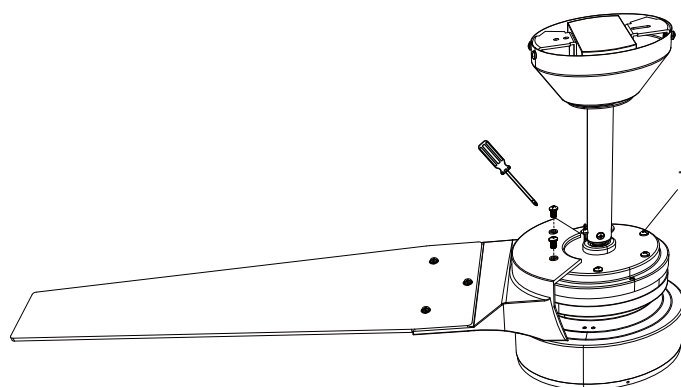

Figure 14
- Remove two blade holder screws on the top of motor and save them, position the blade holder (C) above the motor such that the holes aligned (Figure 14). Tight the pre-installed blade holder screws.